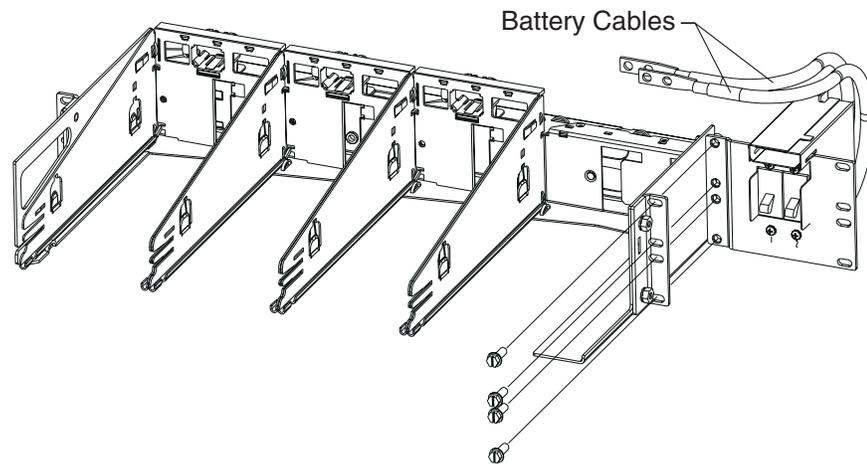

Figure 5-11: Battery Breaker Assembly Installation
1. Mount the battery breaker bracket to the shelf's right mounting flange using the screws provided. See Figure 5-11. The bracket on the left side may be used as is. Ensure battery breakers are in the OFF position.